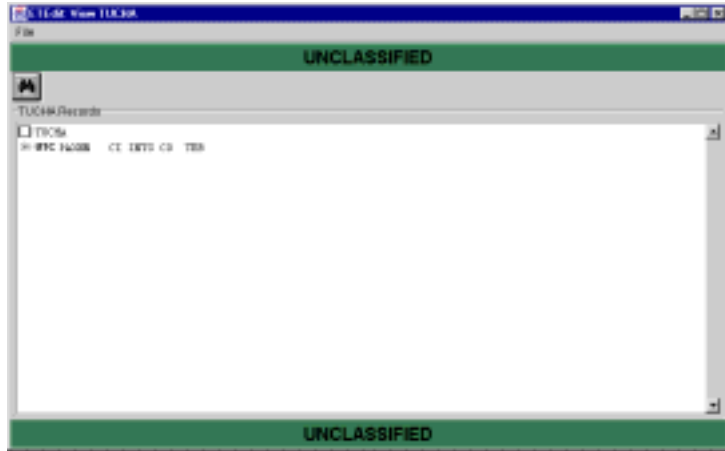

Figure 5.150 ETEdit: View TUCHA Window
- To display the TUCHA file, click OK. The Select TUCHA window closes and the ETEdit: View TUCHA window displays the TUCHA file populated with the items selected on the Select TUCHA window (Figure 5.150).